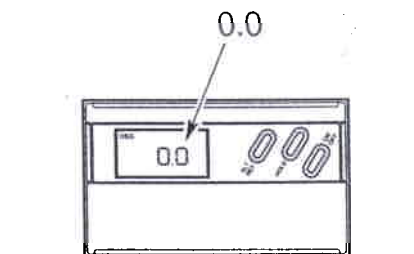

Figure 3
7. Press "Hold" button. Unit will read "0.0" within five (5) seconds. **CAUTION: DO NOT MOVE UNTIL LCD READS "0.0"**.
8. Position unit on reference surface, display facing towards you. See Figure 3.